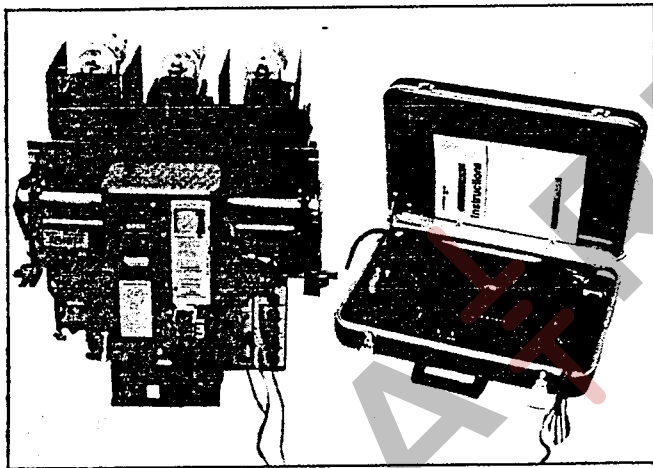

Figure 10. Testing With Portable Test Set
Figure 10 is a table of settings in amperes for all the standard tripping transformer ratings.
The tripping transformer rated secondary current is one ampere. Because setting E, Figure 10 table corresponds to rated tripping transformer current, one ampere input to the device will cause it to pick up and start timing if LONG TIME pick-up setting is on "E".
*Example:* Suppose it is desired that the breaker shall trip whenever sustained current exceeds 600 amperes, and suppose that the tripping transformer rating is 800 amperes. The LONG TIME pick-up setting should be "C", Figure 10 table. At 600 amperes, current input to the control will be  $600 \div 800 = 0.75$  amperes.
A portable test set is available for secondary testing that is designed to plug into a standard 115 volt outlet, Figure 10. With this test set, Static Trip II can be tested by itself without a circuit breaker, or on a circuit breaker with the breaker away from the cubicle, or inside the cubicle in the TEST or DISCONNECT position.